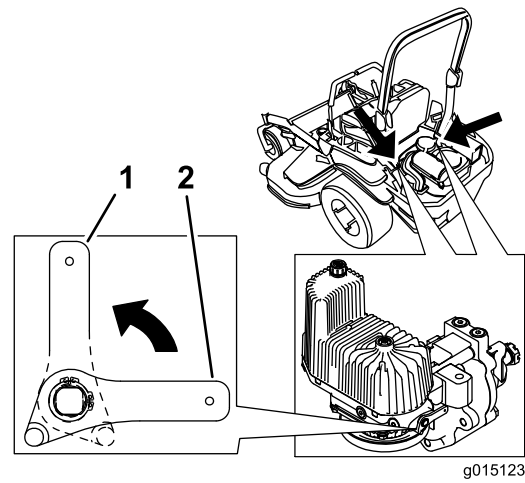

Figure 35
3. Rotate the release-valve levers vertically to push the machine (Figure 35).
5. Rotate the release valve levers horizontally to run the machine (Figure 35).